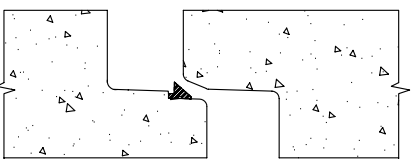

Figure 1
3. Place the profile gasket on the step of the cleaned spigot. The fin of the gasket should point towards the shoulder of the spigot. (See Figure 1)